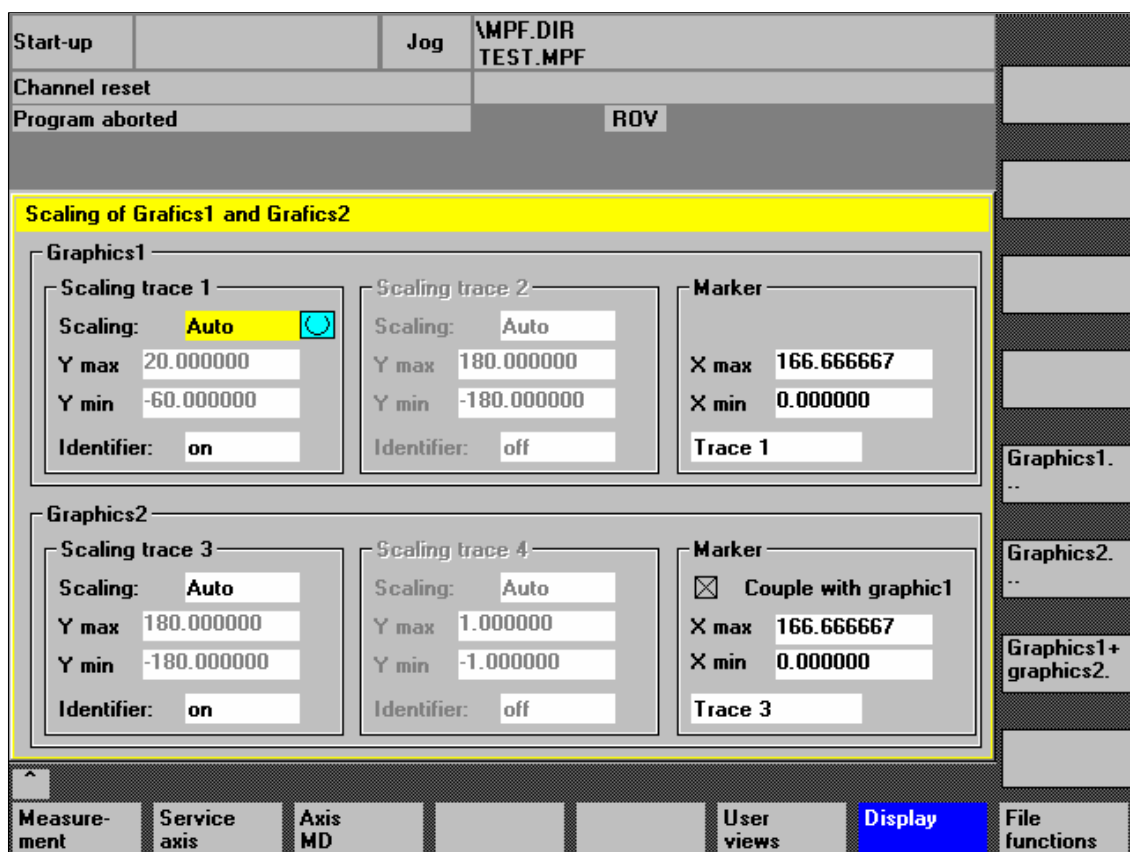

Fig. 13-7 Menu: Scaling of graphics
- Switching over the display from double to single graphics and vice versa (this function also exists in the scaling menu Fig. 13-7, Page 13-386)